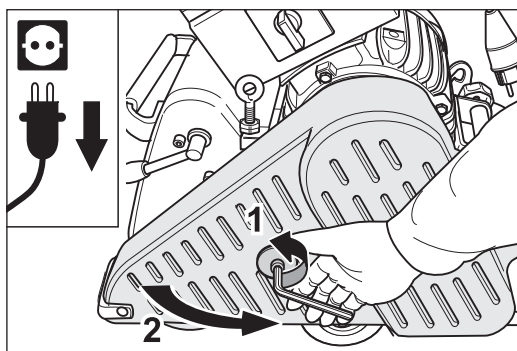

Fig. 2 Pull the power plug out of the socket and open the belt guard.
- 3 Open the belt guard (fig. 2)